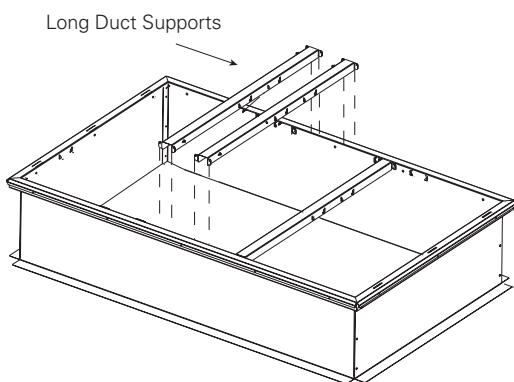

Figure 2. Step two
4. Insert the other two long duct supports as shown. See Figure 2, p. 5. Verify the 4.88" and 16.75" dimensions between long duct supports.